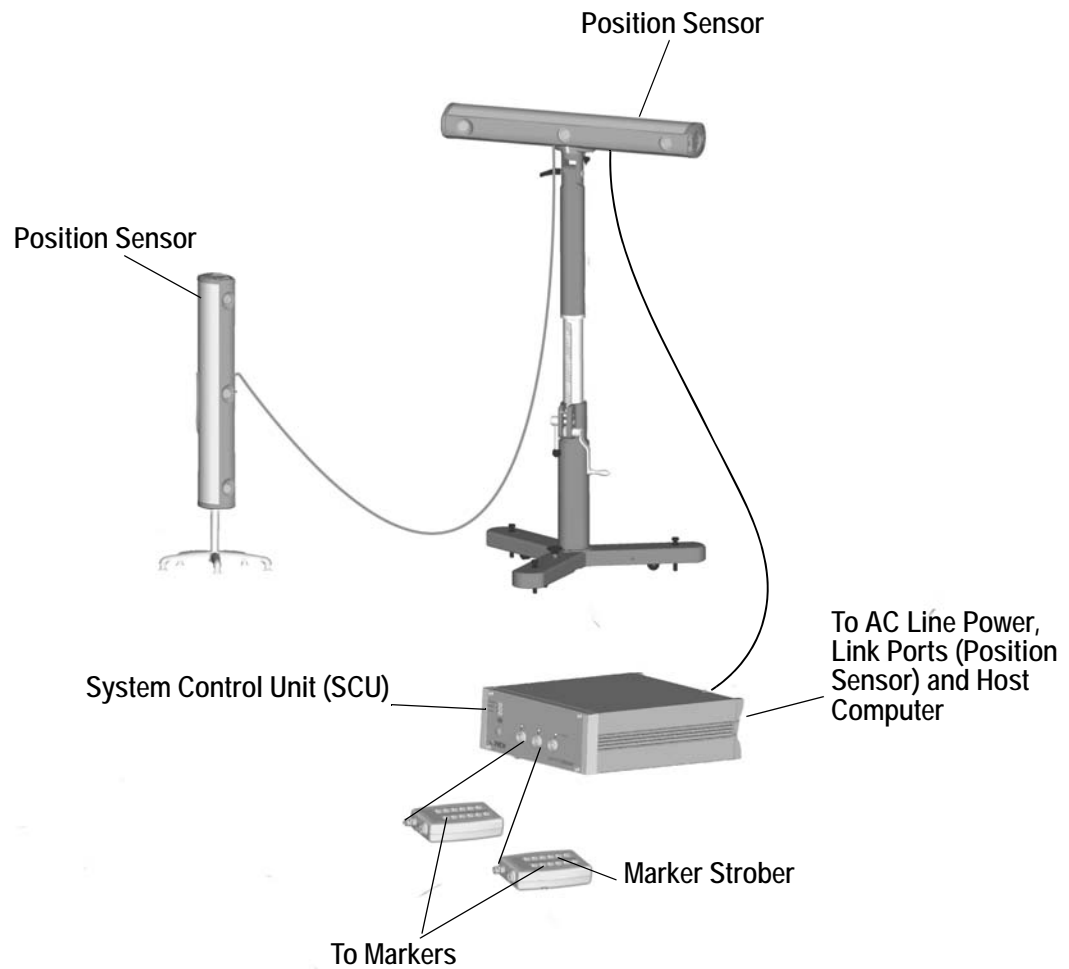

Figure 1-1 Typical Optotrak Certus System Setup
1. The system is connected as shown in Figure 1-1.